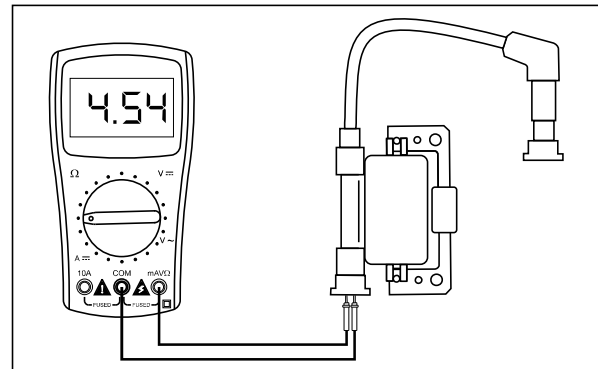

Fig. 5.12
- Connect the pocket tester's '+ve' and '-ve' lead to the terminals of the ignition coil coupler as shown to measure the primary winding resistance. (Fig. 5.12) If the resistance is not within the specified limit, replace the ignition coil assembly with a new one.